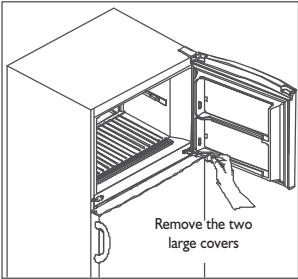

Fig. 1
- 1. Unscrew the two screws fastening the middle hinge, in addition to the two large covers on the left. (Fig. 1)